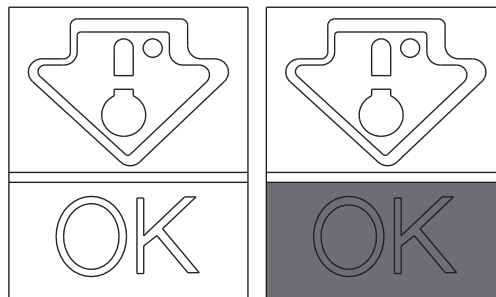

Fig. 6
• To maintain the best flavour, nourishment and freshness of foods, it is advisable to store them in the refrigerator compartment as shown in Fig. 6 below, making sure to wrap them in aluminium or plastic sheets or in appropriate covered containers to avoid cross-contamination.
Check that on the indicator of the temperature, the word OK is clearly shown (Fig. 6). If the word does not appear, this means that the temperature is too high: adjust the temperature to a cooler setting and wait for about 10 hours.